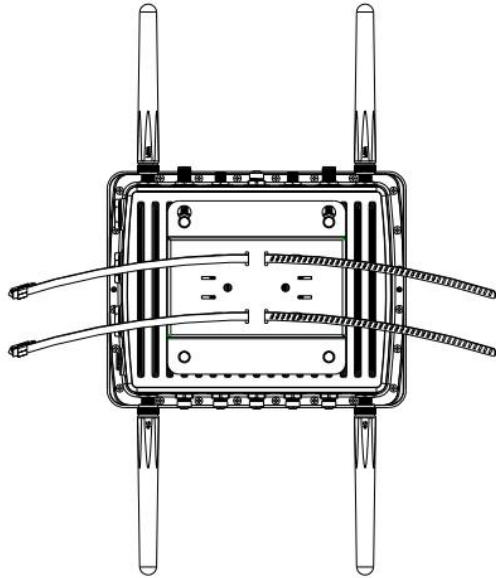

Figure PM-3
4. Straighten out the hose clamp and slide it through the rectangular holes in the mounting bracket (Figure PM-3).